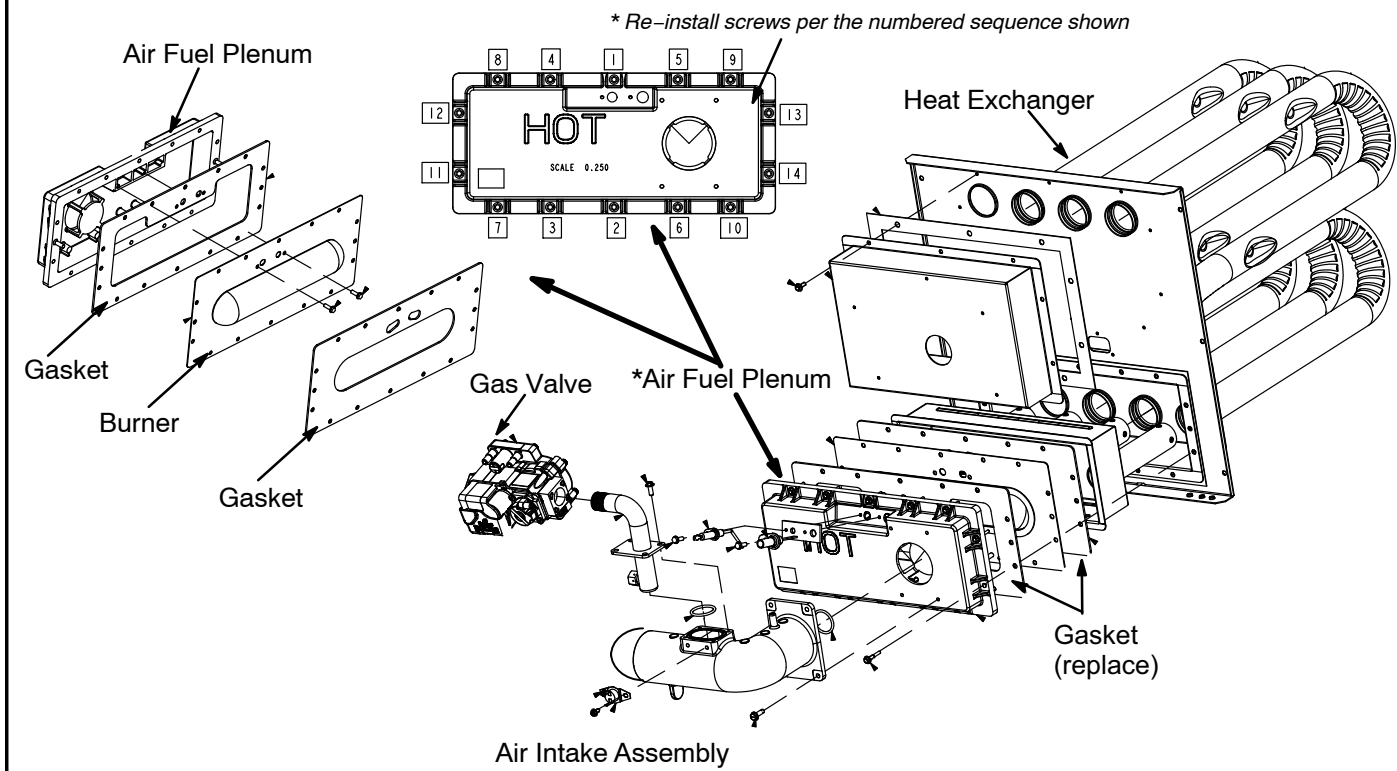

FIGURE 24
- 9 - To clean burner, remove from the air gas plenum and run a vacuum cleaner over the face of burner. Visually inspect inside the burner for any blockage caused by foreign matter. Remove any blockage. Figure 24 shows burner detail. *Replace gasket between burner plate and air fuel plenum then re-install burner plate.*